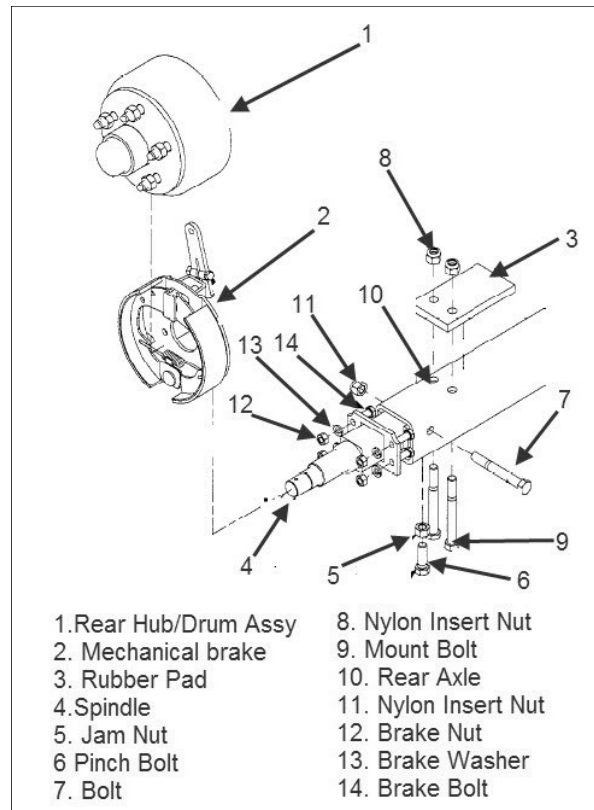

Figure 4-19 Rear Undercarriage Removal
See Figure 4-19 for the following maintenance steps. The rear undercarriage assembly consists of: a wheel assembly, a hub and brake drum assembly (1), a mechanical parking brake assembly (2), a rear spindle (4), and the axle (10).